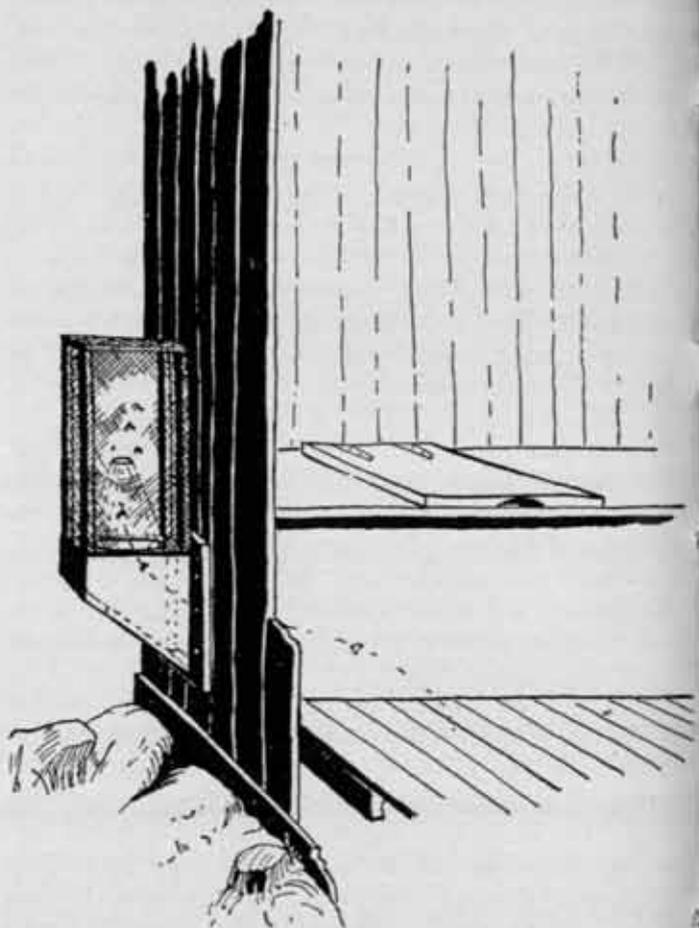

FIG. 2
of a latrine as shown in Figure 2. (2) Placing traps near a fire is the best way to kill the trapped flies; the dead flies can then be removed by opening one corner of the screen. Killing flies with an insecticide renders the traps useless for several days as flies will not enter them. (3) An effective and exceptionally sturdy trap, which can be burned out